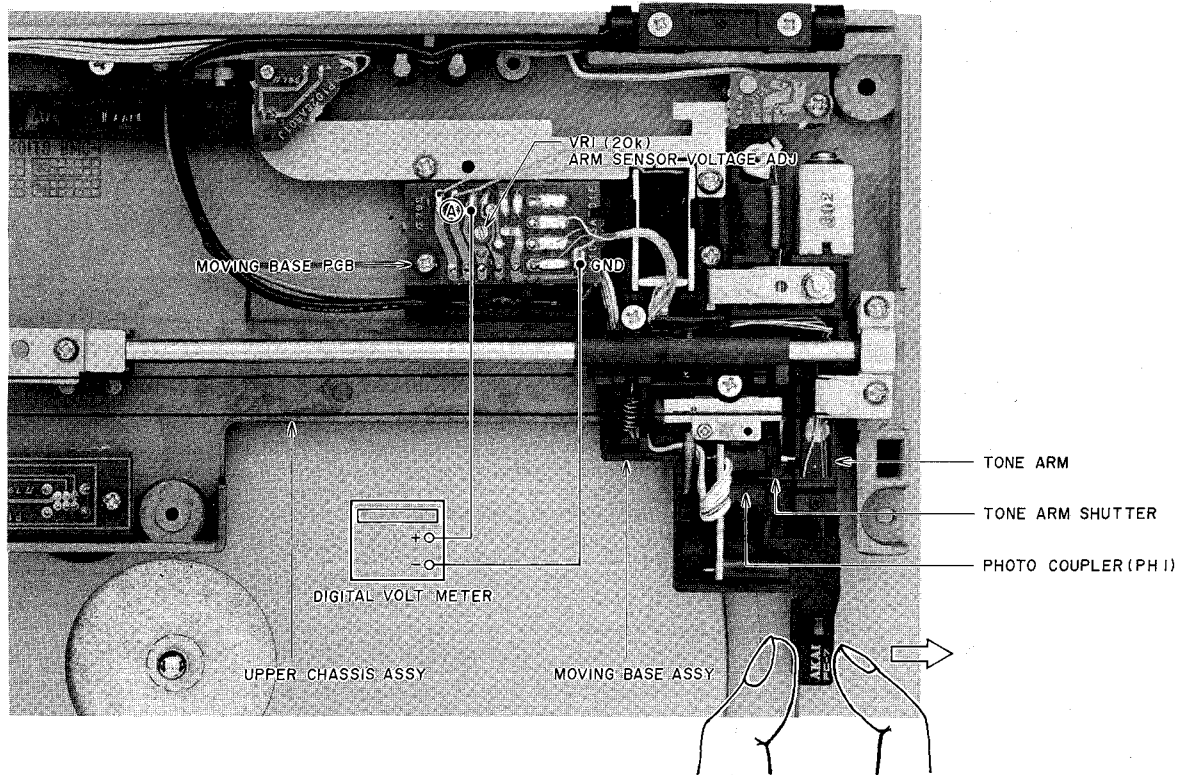

Fig. 7-1 Inside View of Moving Base Block
### 7-1. ARM SENSOR VOLTAGE ADJUSTMENT (Refer to Fig. 7-1)
- 2) Connect a digital voltmeter between the point ① and ground. Move the Tone Arm by hand in the direction as shown in Fig. 7-1 to move the Tone Arm Shutter out of the photocoupler, and adjust VR1 on
- 3) After the adjustment in item 2) is completed, move the Tone Arm back to the original position and confirm that the voltage at the point ① is more than 1.8V. If the voltage is less than 1.8V, re-adjust VR1 so that the voltage is  $2.0V \pm 0.1V$ .